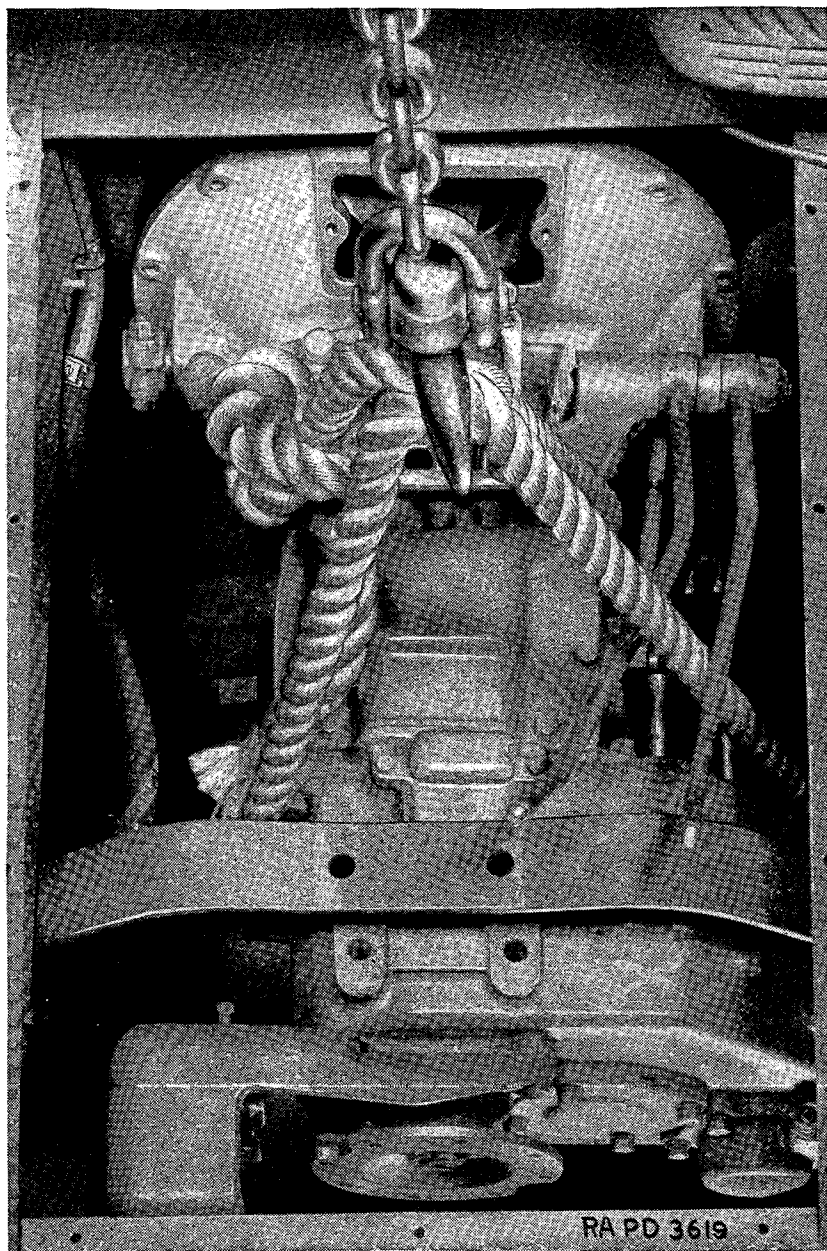

FIGURE 84.—Transmission assembly removal.
*i.* Mount sling around transmission—1-inch rope, chain block and hook. Put rope around and under transmission, making certain that assembly will be balanced in sling during removal in order to prevent injury to splined shaft (fig. 84).